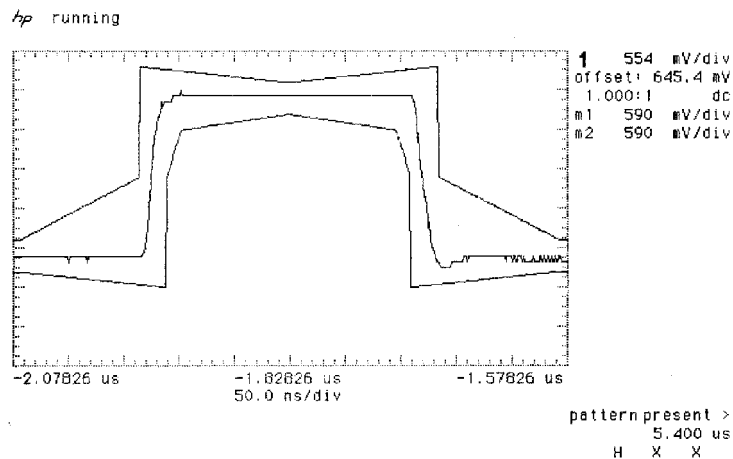

Figure 3-30 2 Mb/s Isolated Positive Pulse
14. Press SHIFT **AUTOSCALE** on the oscilloscope to automatically align the pulse to the mask. Verify that the pulse falls within the mask as shown in Figure 3-30.